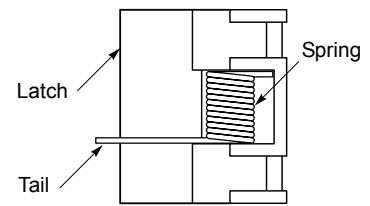

Figure 5.
The Latch (1) is removed in the following step. Assembly Pin (8) is pushed through Latch to keep Spring (9) in place. If Assembly Pin is not available, use care when removing Latch Pivot Shaft (10) to keep Spring within Latch. If Spring comes out of Latch, reinstall Spring as shown in Figure 5.